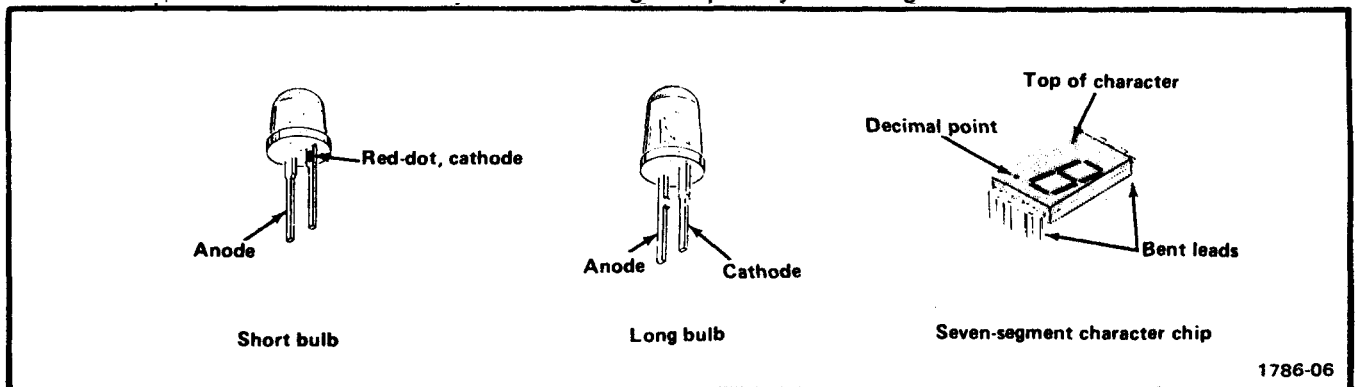

Fig. 3-2. Light-emitting diode (LED) lead orientation illustration.
**Light-Emitting Diodes.** LED's used as indicators are mounted on the sub-panels with plastic sleeve sockets similar to the incandescent bulb mountings or they are soldered directly to a sub-assembly and so mounted that they protrude through holes in the panel. In these cases, the sub-assembly must be exposed and the anode and cathode lead orientations carefully noted before unsoldering the defective LED. See Fig. 3-2 for LED lead identifying information.